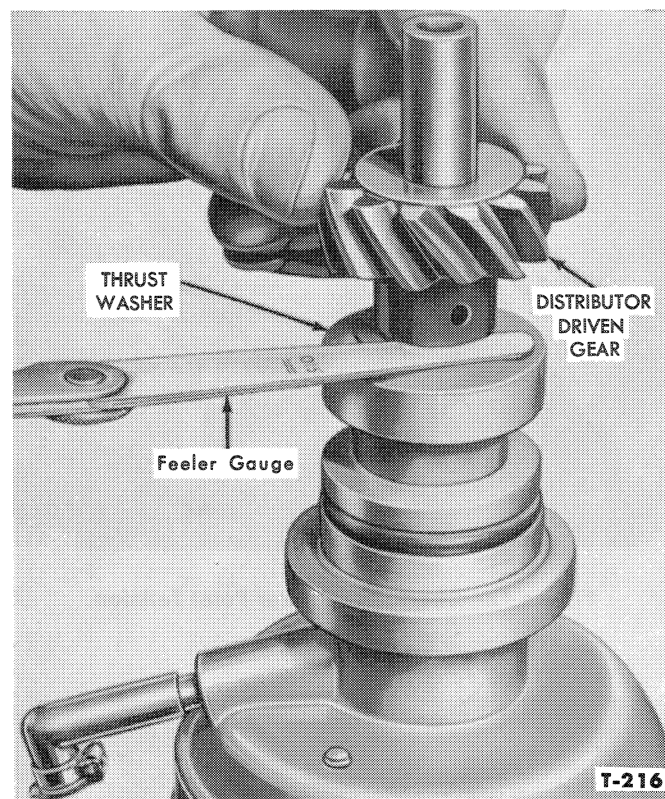

Figure 10—Checking Distributor Shaft End Play
6. Before installing the pin, check the shaft end play as shown in Figure 10. Add thrust washers as necessary to obtain a shaft end play of 0.024-0.046 inch. After the correct end play has been obtained, install and peen the rivet.